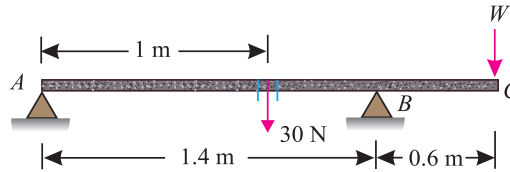

Fig. 3.5.
**Example 3.2.** A uniform plank ABC of weight 30 N and 2 m long is supported at one end A and at a point B 1.4 m from A as shown in Fig. 3.5.